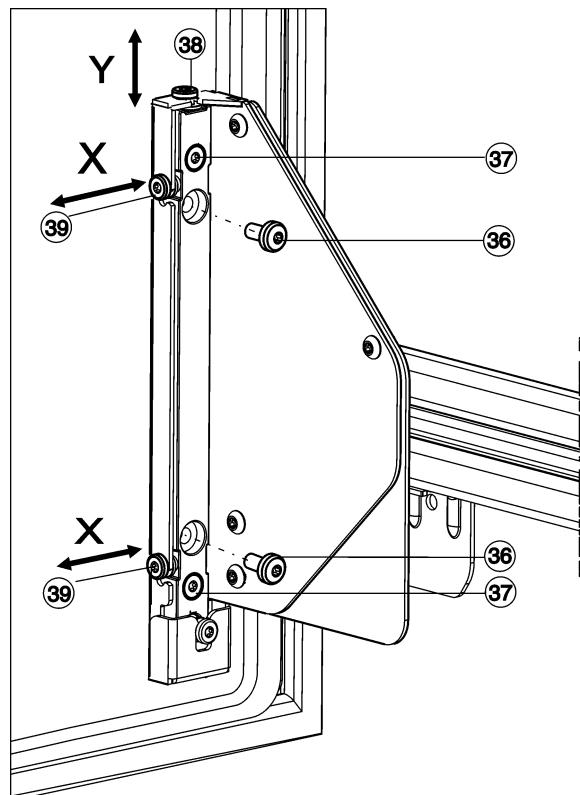

Fig. 31
- ▶ Fully screw out the screws Fig. 31 (36).
- ▷ Dispose of the screws Fig. 31 (36) as they will no longer be needed.
- ▶ Only loosen the screws Fig. 31 (37) with 1 to 2 turns.
- ▶ Turn the adjusting screw (38). In a clockwise direction: the door moves max. 4 mm upwards. In an anticlockwise direction: the door moves max. 2 mm downwards.
- ▶ Retighten all screws Fig. 31 (37).
- ▶ If the screws Fig. 31 (36) are still present, unscrew them fully.
- ▶ Adjust the adjusting screws Fig. 31 (39) according to the desired lateral adjustment direction.
- ▶ Retighten the screws *Fig. 31 (37)* after the lateral adjustment is complete.